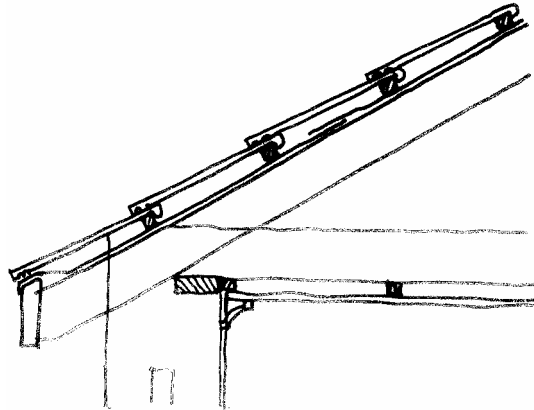

Figure 10.33 – Single sided reflective foil facing down
- ❖ If single-sided, the reflective surface should face down to prevent the effect of dust accumulation. This insulation is a more permanent and better solution than foils. It provides a less dusty roof space and reduces temperature extremes, which are bad for the roof construction. However, bulk insulation is still needed. *Fig10.33*